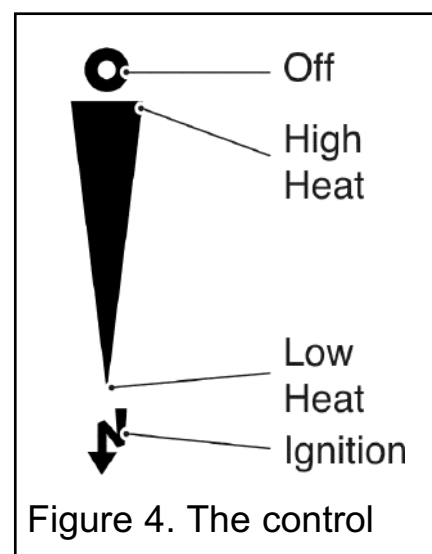

Figure 4. The control
The slide control is shown in figure 4.
the low heat position shown in figure 4 (See note i below). If for any reason the slider control does not spring up, raise the slider to the off (O) position (Topmost position) and contact your installer. Do not use the fire until the problem has been rectified.
**4.** For a higher heat level slide the button upwards. The burner flames and heat output will gradually increase until the button reaches the high heat position shown in figure 4. When the button reaches the high heat position you will feel a check to its movement. **Do not slide the button above the high heat position unless you want to turn the fire off** (See note i below).